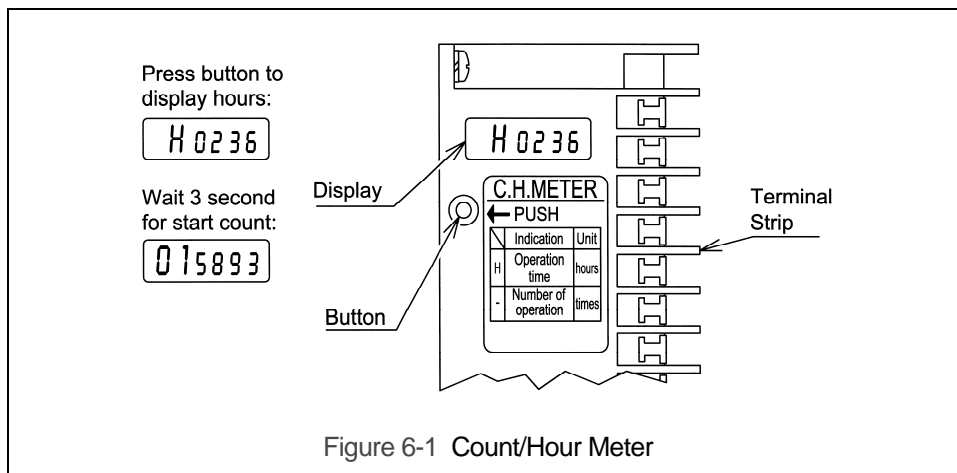

Figure 6-1 Count/Hour Meter
- 6.1.1 The optional Count/Hour (C/H) Meter located on the electrical control panel records the hoist's on time and number of starts. To view the two values press the button on the C/H Meter one time. The display will first show an "H" and a 4 digit number which is the hoist's total on time (up and down) in hours. After 3 seconds the display will automatically change to a 6 digit number which is the number of starts of the hoist's down contactor. Refer to Figure 6-1.